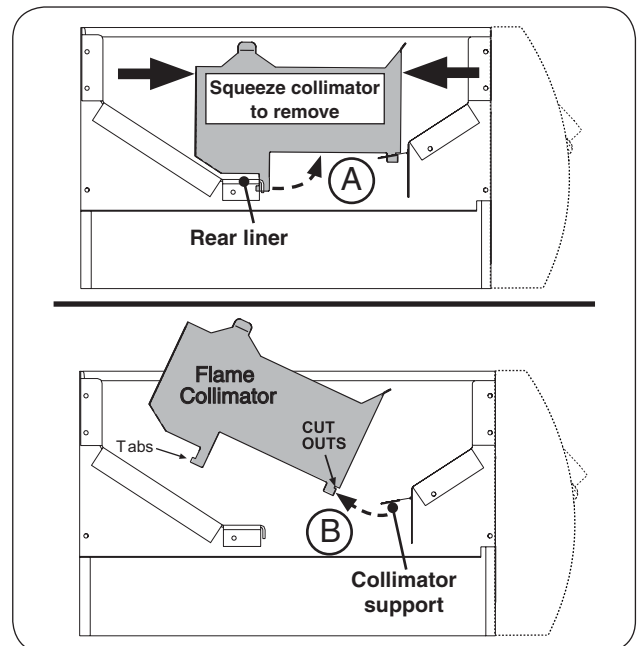

Fig. 42-4 Flame collimator removal
2. Squeeze the collimator to detach the rear tab from the rear liner as shown in Fig. 42-4, A, and lift up the rear portion of the collimator.
3. Detach the collimator from the front collimator support and completely remove the collimator as shown in Fig. 42-4, B.